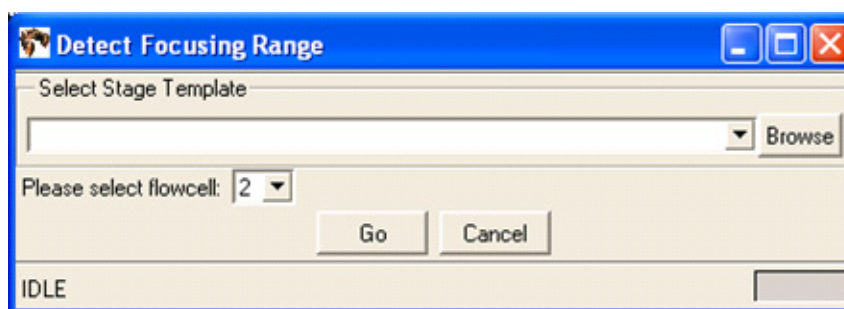

Figure 33 Detect Focusing Range dialog.
3. In the focusing range dialog, specify the stage template file by entering the name of the stage template file directly or by clicking the **Browse** button to navigate to a suitable stage template file (see Figure 33).